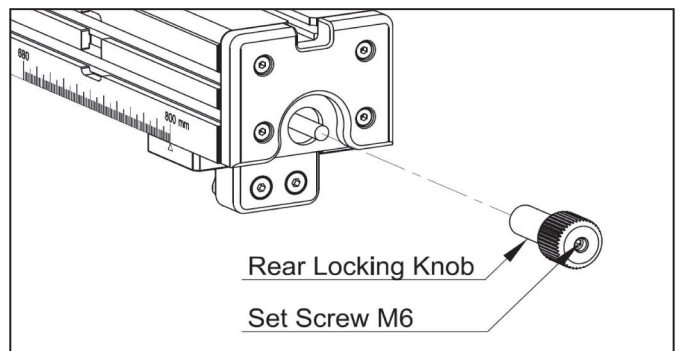

Fig. 9-3
- (3) Loosen the M6 set screw and rotate the rear locking knob counterclockwise to remove it, as demonstrated in Fig. 9-3.